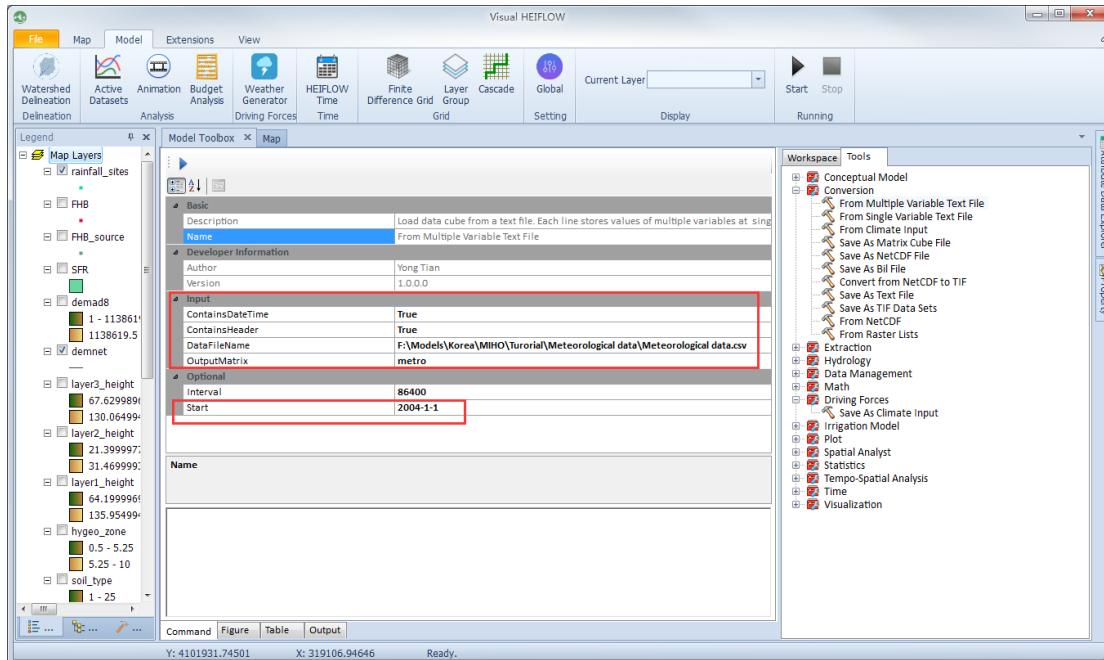

Figure 6-5. Input and output of the From Multiple Variable Text File tool.
- 6) In the Model Toolbox View, double click the tool Conversion -> From Multiple Variable Text File, set its input and output as shown in Figure 6-5.